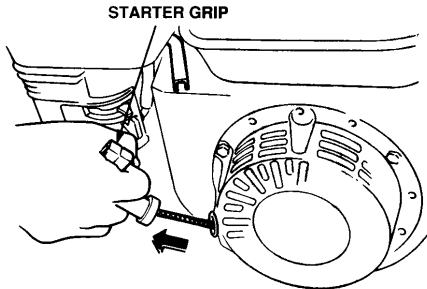

Figure 11. Starter Grip
6. Grasp the starter grip (See Figure 11) and slowly pull it out. The resistance becomes the hardest at a certain position, corresponding to the compression point. Pull the starter grip briskly and smoothly for starting.